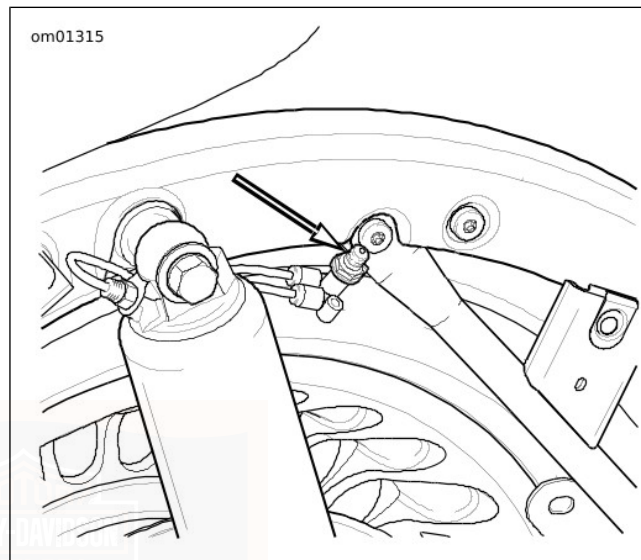

Figure 18. Rear Air Suspension Air Valve
2. See Figure 18. Remove the cap from the air valve located behind the shock absorber on the left side of the vehicle.